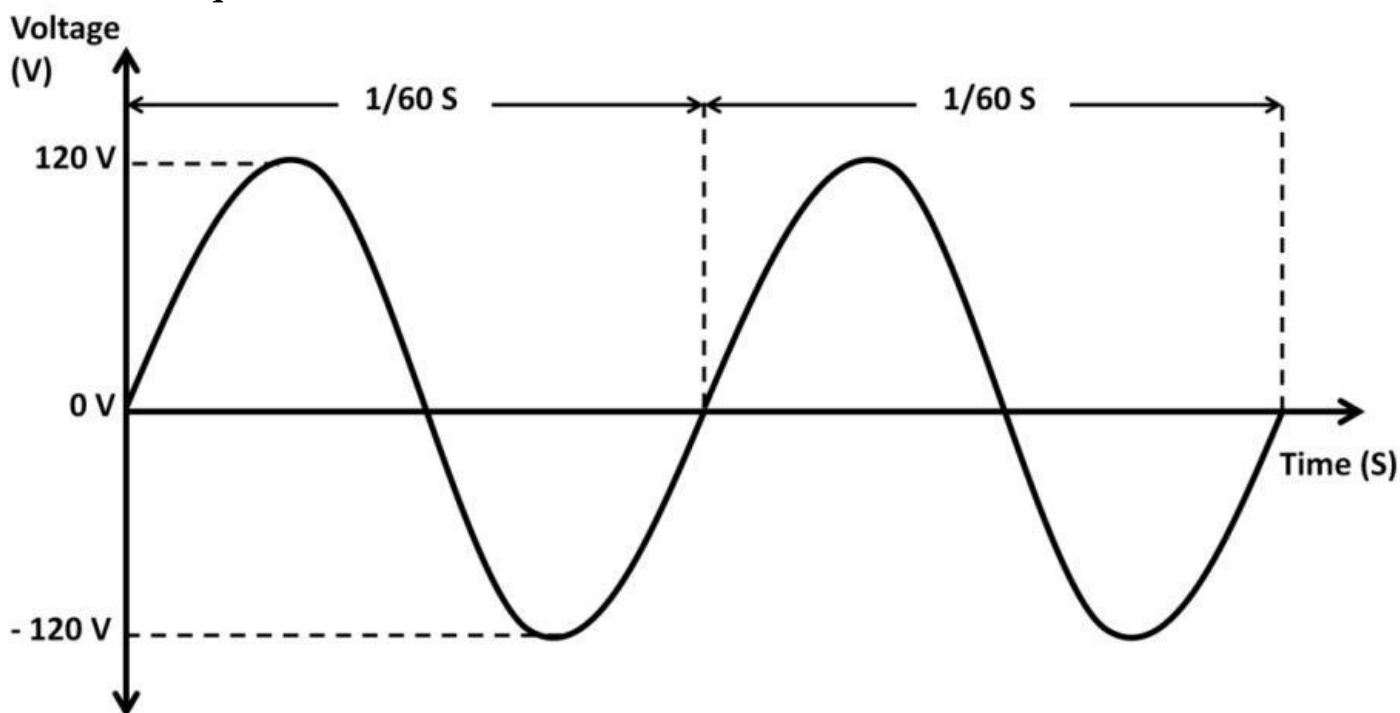
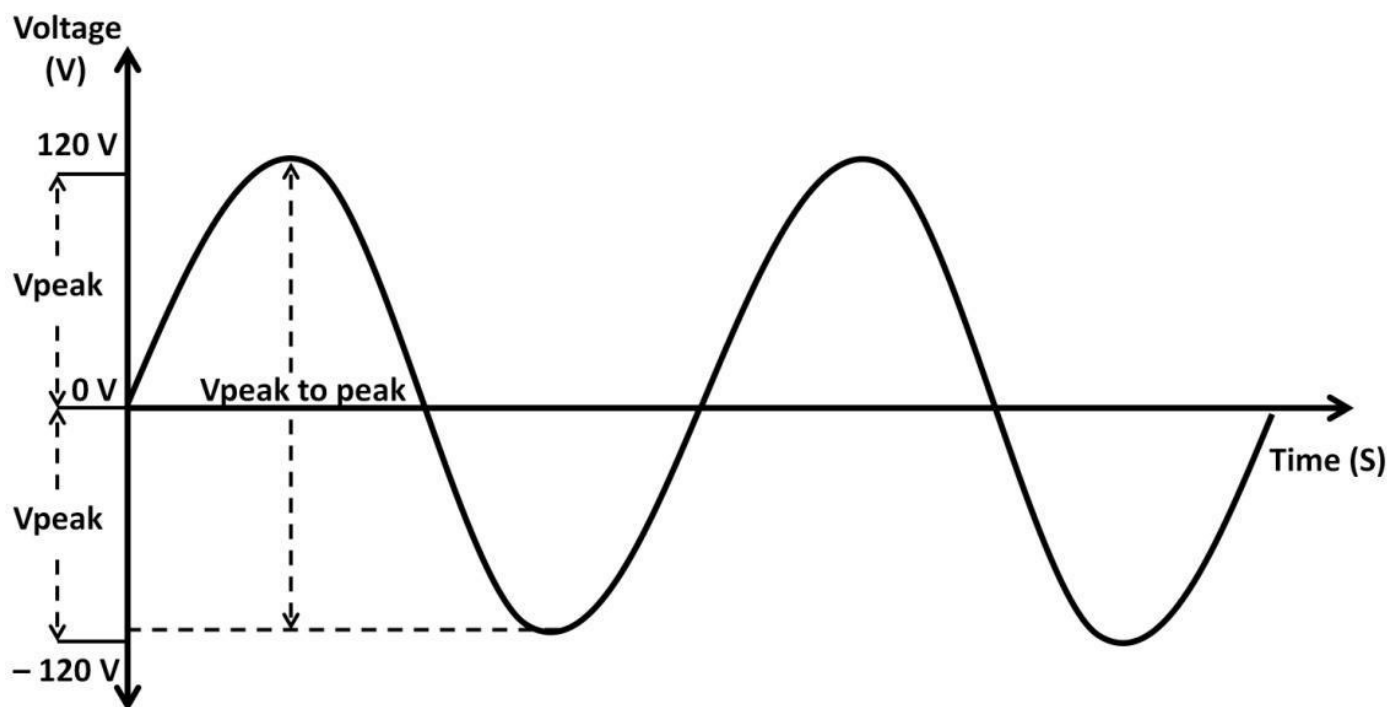
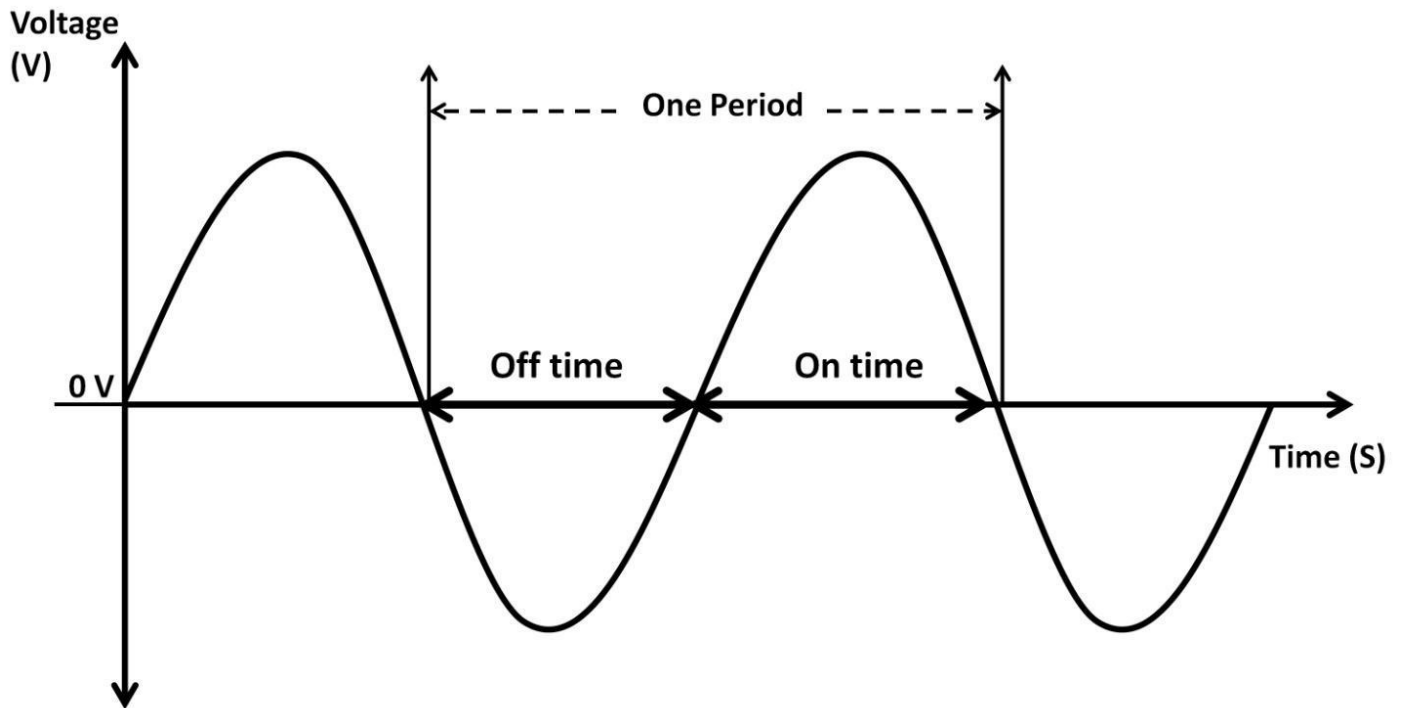

Figure 3.1: Periodic waveform
Figure 3.3: Vpeak, Vpeak-to-peak
Figure 3.4: Period and duty cycle
We will use sinusoidal wave and AC parameters to explain most AC operations. The most common AC waveform is the periodic sinusoidal wave. Sinusoidal (sine) wave comes from trigonometry in mathematics. Figure 3.1 shows a periodic sine voltage waveform in time (transient) domain. It means that the frequency is fixed while the waveform amplitude is changing. Other than the sine wave, the square wave and saw-tooth wave are also common AC signal sources. The schematic symbols of all three types are shown below.
One operation cycle (period, unit in seconds) is defined as the total time it takes while the voltage stays above the X-axis (upper half of a sine wave cycle) plus the time the voltage stays below the X-axis (bottom half of one sine wave cycle). In figure 3.1, each cycle takes 1/60 second to complete. Furthermore, one period can be interpreted as: from one waveform peak (maximum point) to the next peak. It can also be measured from the rising (leading) or falling (trailing) edge of the waveform to the next rising or falling edge. From figure 3.1, one period is found by one rising edge to the next. By definition in table 3.1, frequency is defined as one over period (1 / Period):
The frequency in figure 3.1 is:
From figure 3.1, the vertical axis is voltage. It “swings” up and down above and below the X-axis. The vertical amplitude is expressed in voltage (V). From the highest peak of the upper half waveform to 0 V on the X-axis, its amplitude is 120 V. This is the positive peak voltage (V_{peak}), (see figure 3.3). The lower half of the waveform is peak voltage with a negative sign, i.e., -120 V . Peak-to-peak voltage ($V_{\text{peak-to-peak}}$) can be estimated from the highest peak voltage to the lowest peak voltage. In this example, $120\text{ V} - (-120\text{ V}) = 240\text{ V}$. $V_{\text{peak-to-peak}}$ can also be viewed as the positive V_{peak} multiplied by 2, i.e., $(120\text{ V}) \times 2 = 240\text{ V}$. You can see that V_{peak} is exactly half of $V_{\text{peak-to-peak}}$.
From figure 3.3, the time it takes for the upper half of one sine wave cycle to complete is ontime. The other half, off-time, is the time it takes for the lower half of the sine wave cycle. By definition, **On-time + Off-time = One period** (see figure 3.4). For a periodic waveform, ontime is exactly the same as off-time. Using the duty cycle equation, you can see that the duty cycle of a periodic 60 Hz sine wave is 50%: